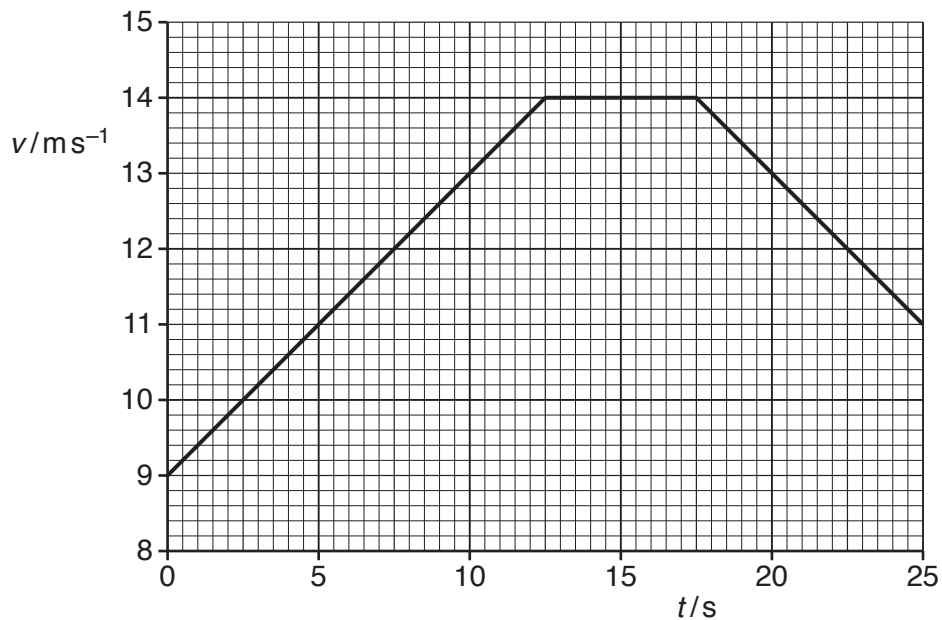

Fig. 2.2
The variation with time t of the velocity v of the car for a part of its journey is shown in Fig. 2.2.
1. use Fig. 2.2 to calculate the acceleration
Use Fig. 2.2 to calculate the frequency of the sound emitted by the horn.